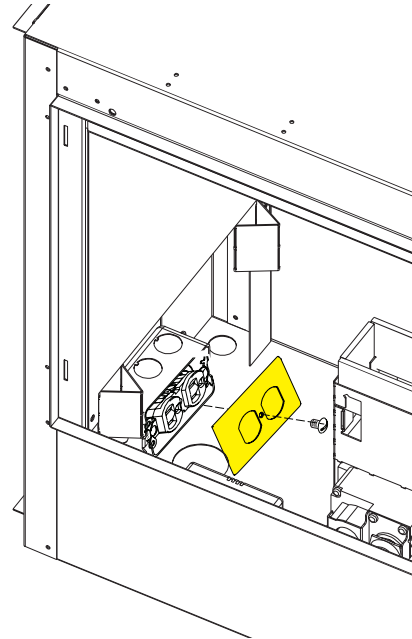

Figure 34
- Install the Junction box cover. See Figure 34.